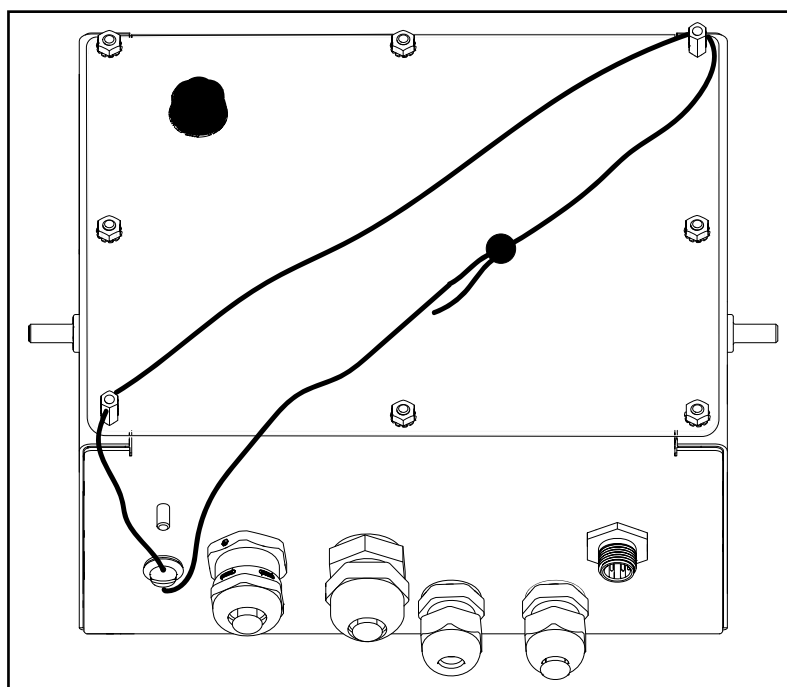

Figure 2-6. Sealing the Indicator
1. Place the sealing wire through the fillister head screws on the backplate, then through the fillister head screw at the bottom of the indicator, as shown in Figure 2-6.